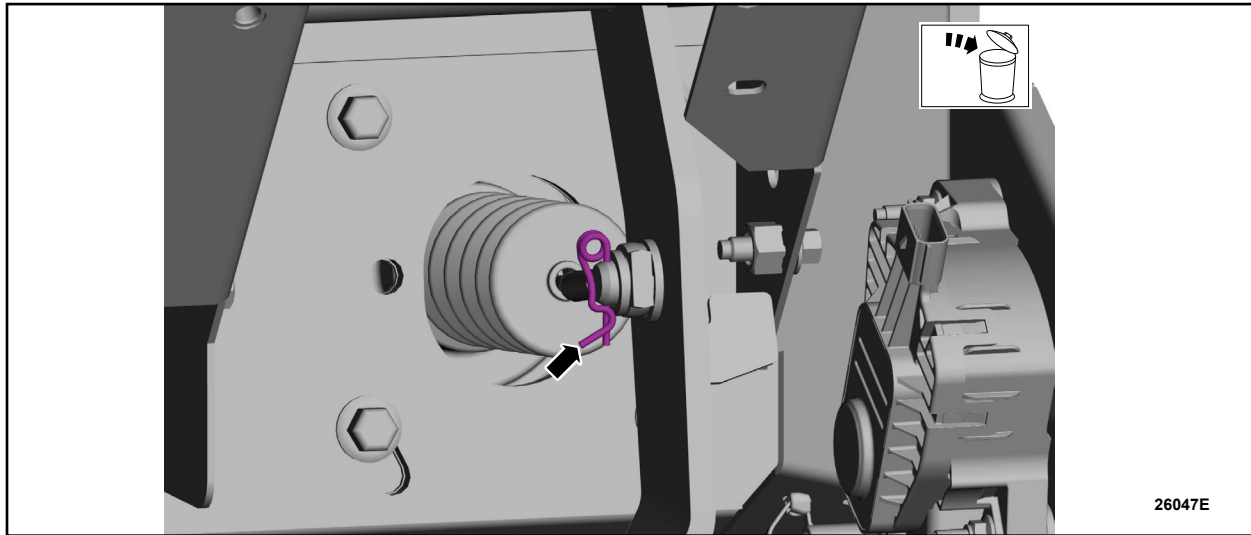

FIGURE 6
14. Remove and discard the self-locking clip. See Figure 6.